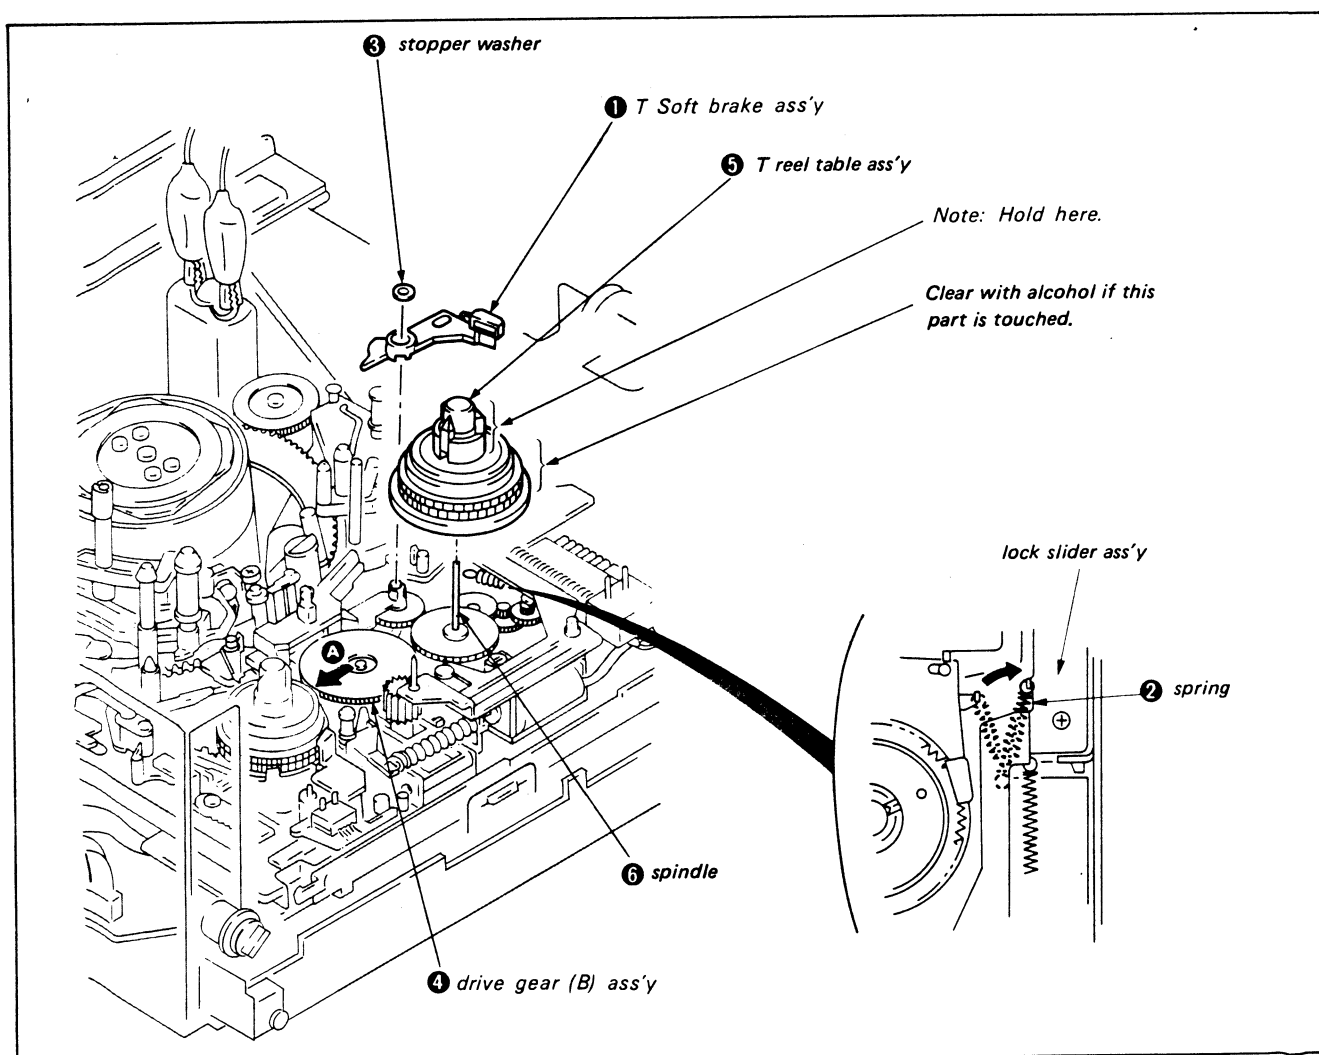

Fig. 3-2.
- 3) Place the spring ② on the T.S brake assembly ① on the hook on the lock slider assembly.
- 4) Remove the stopper washer ③ and the T soft brake assembly ①.
- 6) Move drive gear (B) assembly ④ in the direction of arrow **A**.
- 7) Remove T reel table assembly ⑤. (See Fig. 3-2)
Note: Be sure to hold the upper reel hook when removing. (See Fig. 3-2).
- 1) Place a half drop of oil on the shaft ⑥ upper surface.
- 2) Move the drive gear B assembly ④ in the direction of arrow **A**. (Check **EJECT** mode.)
- 3) Mount the T reel table assembly ⑤.
- 4) Mount the T soft brake assembly ① and the stopper washer ③.
- 5) Place the spring ② on the T.S brake assembly ① hook. (See Fig. 3-2)